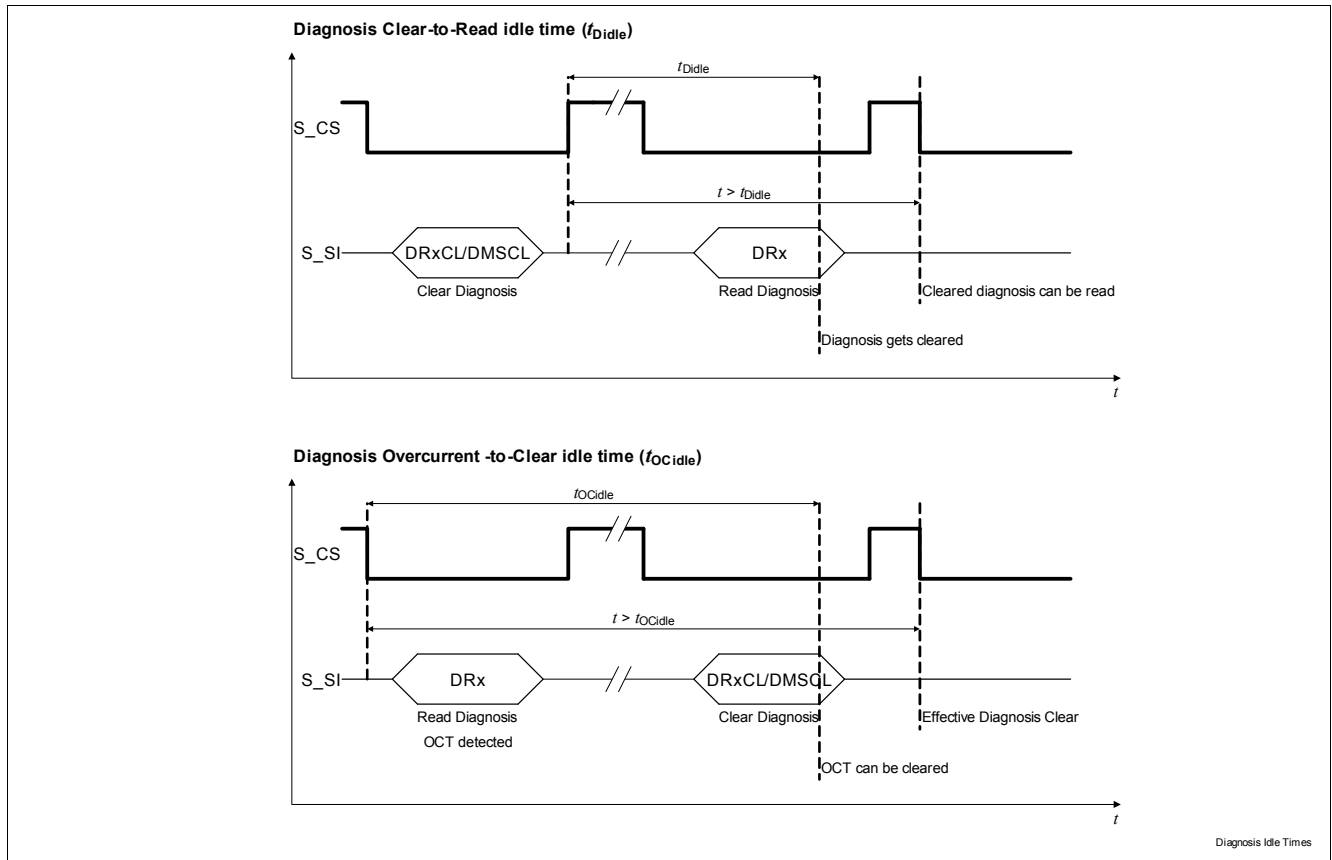

Figure 39 Diagnosis idle times
When issuing a Diagnosis Register Clear command (DRxCL or DMSCl), the idle time t_{Didle} needs to elapse, from the CS low-to-high transition of the clear command, before the register content is effectively cleared (Figure 39); This time has to be taken into account when trying to read the Diagnosis register content after a clear, see Chapter 11.3 for t_{Didle} definition.
After an overcurrent entry is stored in the diagnosis register (OC), the idle time t_{OCidle} needs to elapse before a clear command can effectively clear the entry; if trying to clear the Diagnosis register after an OCT entry is read (Figure 39), this time has to be taken into account starting from the CS high-to-low transition of the previous read command, see (Chapter 11.3) for t_{OCidle} definition.